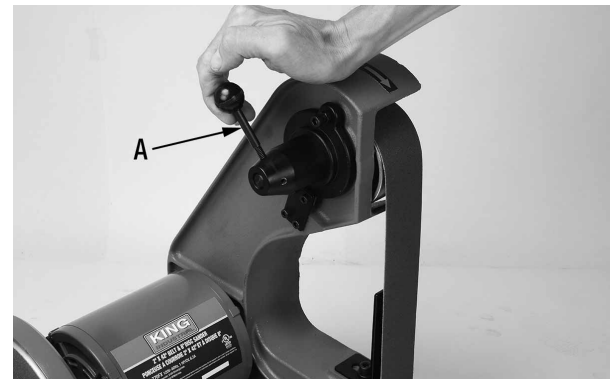

Figure 12
3. Rotate the belt tension lever (A) Fig.12 upwards as shown to release the tension on the sanding belt, remove sanding belt.